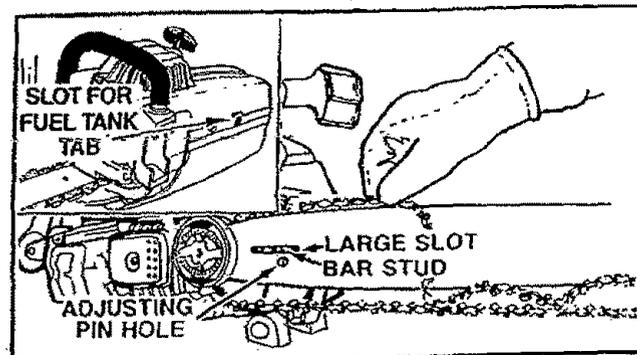

Figure 8
- Place the Guide Bar on the saw by fitting the large slot in the Guide Bar over the Bar Stud. Figure 8.
CAUTION: Make sure that the tab on the bottom of the fuel tank is aligned in the slot provided in the fan housing. See inset, Figure 8.